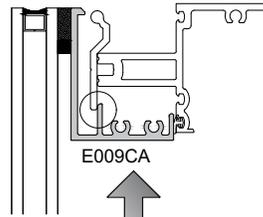

Fig. 42.2
STEP 2: Roll the sill of the cassette frame towards the sill of the back member and slide up engaging the head anchor P4204 as shown in Fig. 42.2.
STEP 3: Attach sill anchors P4200, Fig. 42.2 at 12" o/c and no more than 2" from ends.